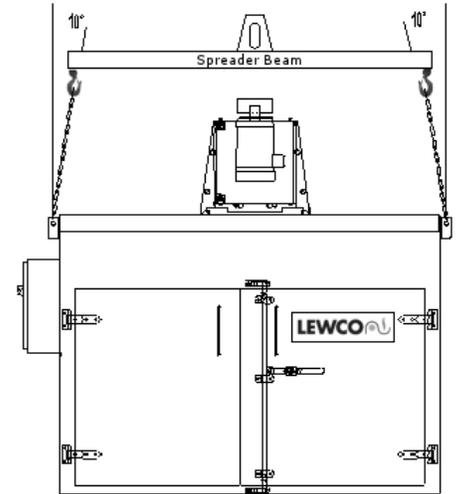

Figure 1: Typical Rigging
Lifting lugs are provided at the top (4) corners of most LEWCO Ovens. It is important to note that rigging cables or chains must not exceed a maximum angle of 10 degrees from vertical (see *Figure 1*). Use a spreader beam, or rigging of adequate length to avoid damage to the equipment. Please refer to any assembly drawings for specific assembly and rigging instructions.